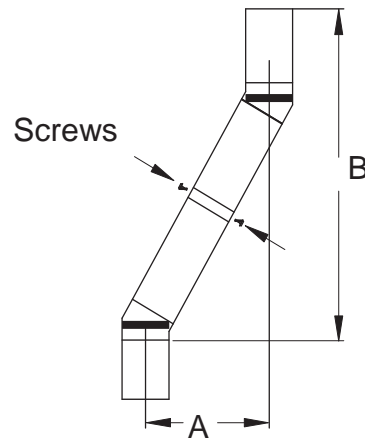

Figure 15 - Elbow Offset
Continue to assemble chimney sections as outlined above, making sure that both the inner and outer pipe sections are locked together. When installing double wall snap-lock chimney together, it is important to assure the joint between the chimney sections is locked. Check by pulling chimney upward after locking. The chimney will not come apart if properly locked. It is not necessary to add screws to keep the chimney together (exception, see Figure 15).
1. To achieve desired offset, you may install combinations of 12", 18", 24", 36" and 48" length of double wall pipe (see offset chart and Figure 15).
4. All pipe connections between the offset and return must be secured with two screws on the outer pipe only (see Figure 15). Do not penetrate the inner stainless.